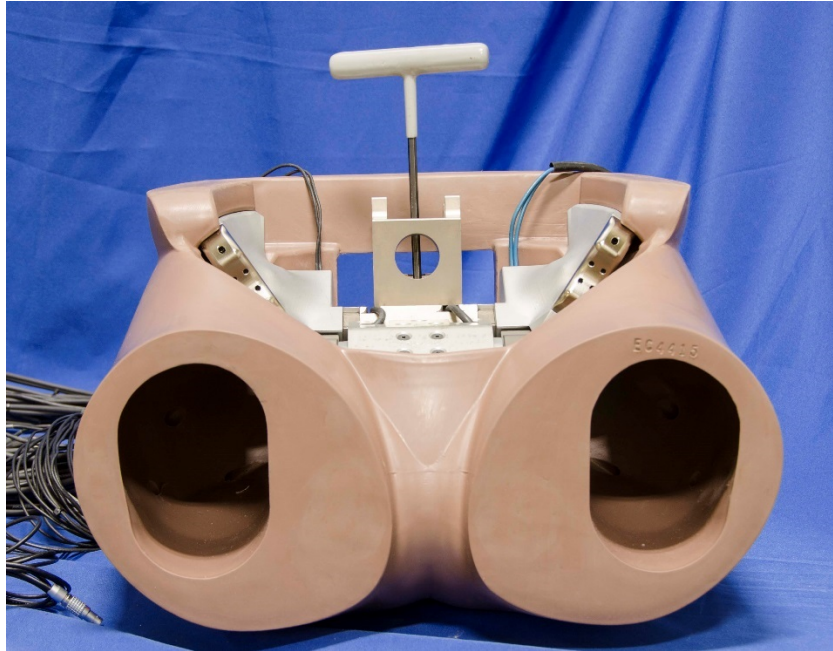
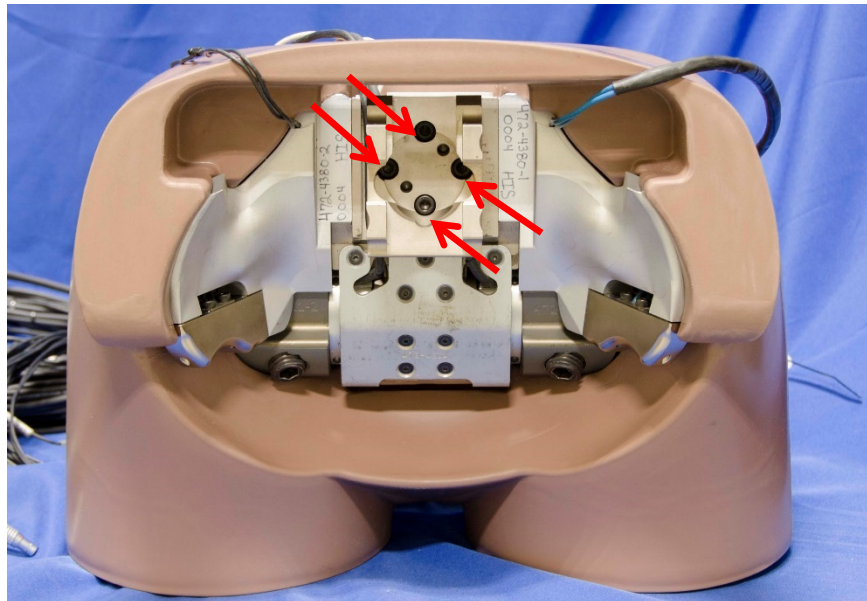

Figure 10-42. Install pelvis/lumbar mounting block to pelvis base module
Figure 10-43. Mounting locations
10.2.3.2 Install the Pelvis/Lumbar Mounting Block Assembly (472-3760) to the Pelvis Base Module (472-4211) using four M6 x 1 x 20 SHCS (Figure 10-42 and Figure 10-43). Note that the pelvis/lumbar mounting block assembly cannot be installed into the pelvis if the tilt sensor mounts are already in place.